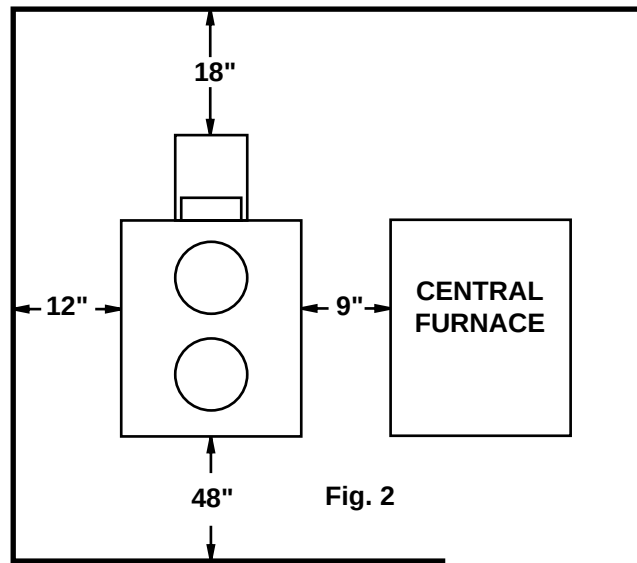

Fig. 2
See Fig. 2.
NOTE: Install only on a noncombustible floor. (REFER TO FIG. 2 & 3)
4. Check figures 2 and 3. Be sure you have the clearances shown from the furnace and the connector pipe to combustible surfaces. If you have a solid brick or stone wall behind your heater, you can place the furnace as close as you wish to the wall. If the wall is only faced with brick or stone, treat it as a combustible wall.
5. Installation for Supplemental Heat Application to Existing Central System. (See Fig. 2 for typical installation.)